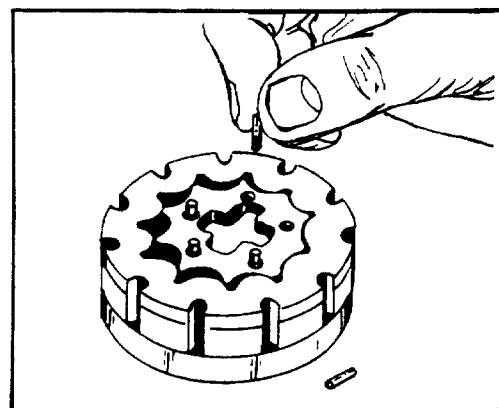

FIGURE 27.
32. Remove the five alignment pins (11). See figure 27.